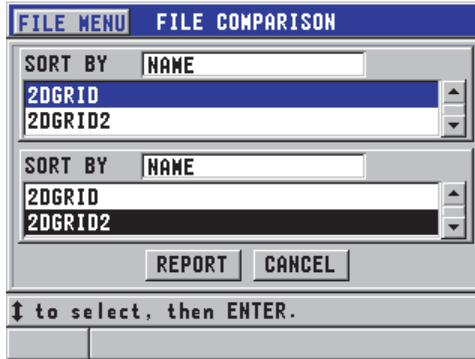

Figure 6-42 The FILE COMPARISON report screen
5. In the **FILE COMPARISON** screen (see Figure 6-42 on page 120):